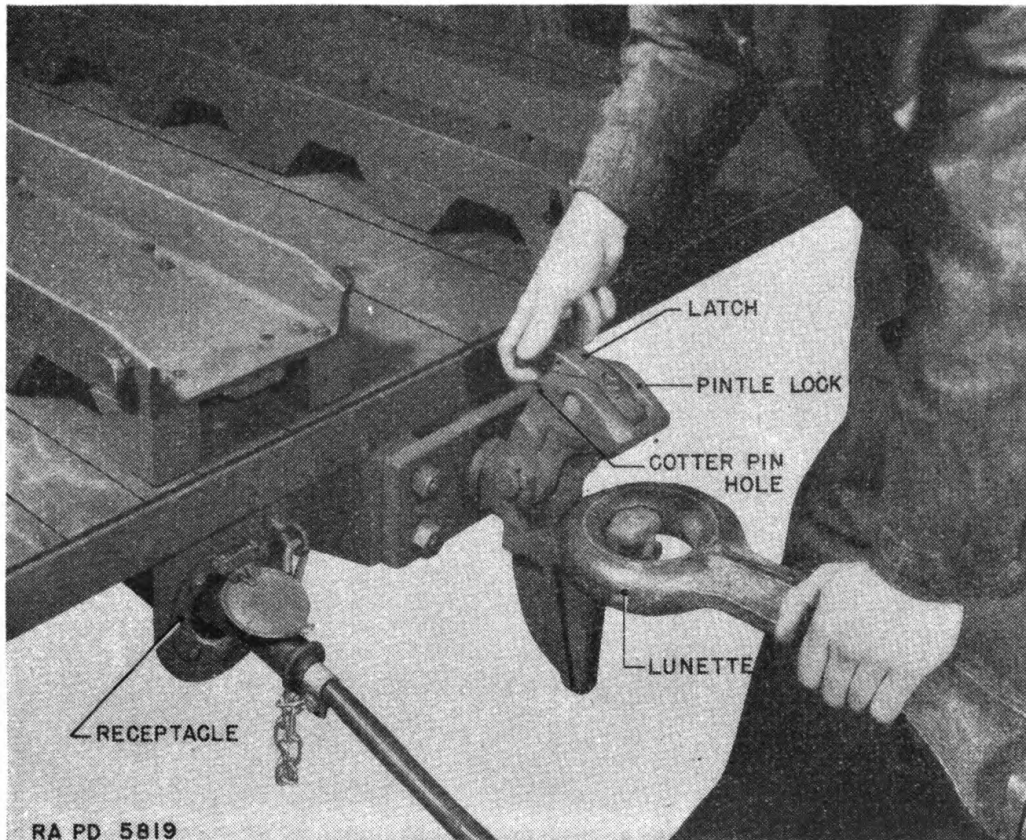
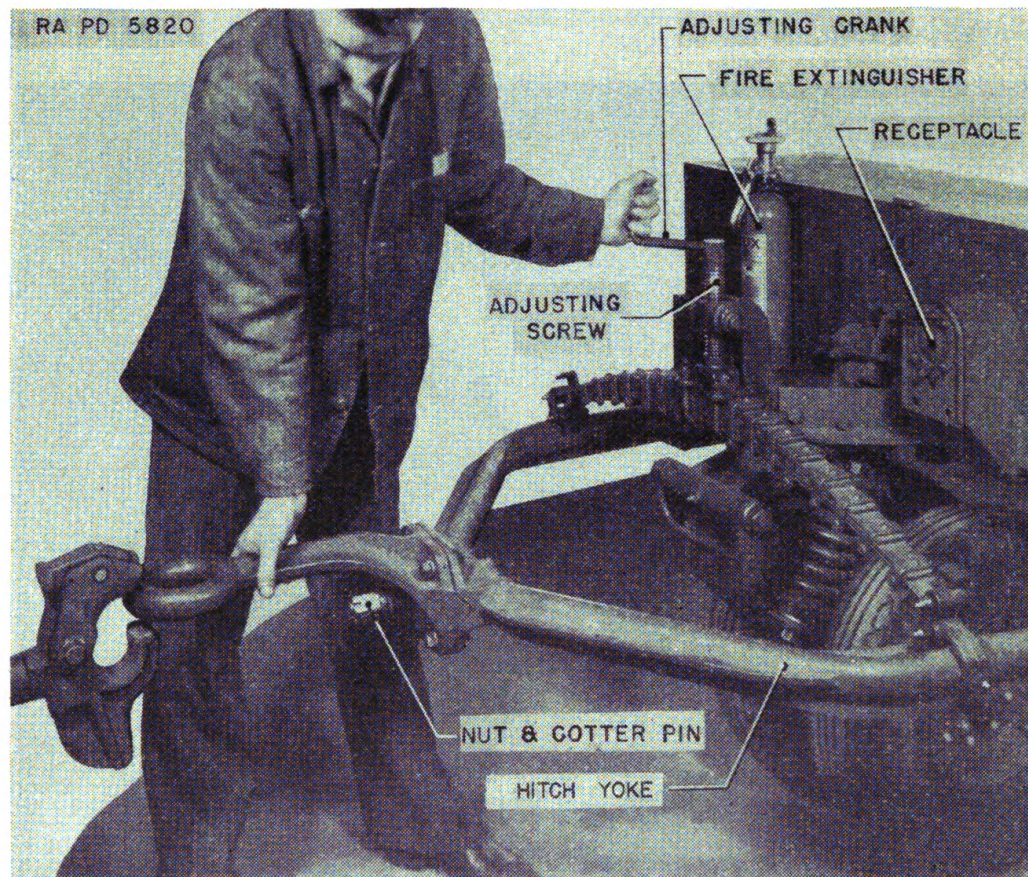

FIGURE 3.—Connecting lunette to pintle.
FIGURE 4.—Stabilizer mechanism.
5. **Attaching to prime mover or other trailer.**—*a. Lunette.*—The lunette (fig. 3) is reversible to allow for a variation in the height of the pintle on the prime mover. When attaching the lunette to the pintle, the lunette should be in the position which permits the hitch yoke (fig. 4) to be as level as possible.
*b. To connect lunette to pintle.*—(1) Pull out cotter pin.
(2) Raise latch.
(3) While latch is held up, raise pintle lock enough to allow lunette to enter.
(4) Release lock by raising latch and pulling forward to lock in place.
(5) Replace cotter pin to prevent accidental release of latch.
*c. To reverse lunette.*—(1) Remove cotter pin and nut (fig. 4) from hitch yoke bolt.
(2) Remove four bolts on trailers which have a square pad on the hitch yoke.
(3) Reverse lunette and reassemble.
**6. Stabilizer assembly.**—The stabilizer (fig. 4) minimizes the tendency for the vehicle to “pitch” on rough roads. The adjusting screw may be used to increase or decrease the hitch load on the rear of the prime mover. This adjustment depends on the load conditions under which the trailer may be operating. Generally, when the vehicle ahead is lightly loaded the adjusting screw should be down, and when it is heavily loaded the adjusting screw should be up. The hitch yoke should be kept as level as possible. Under average operating conditions the hitch yoke should not vary more than  $5^{\circ}$  from a level position.